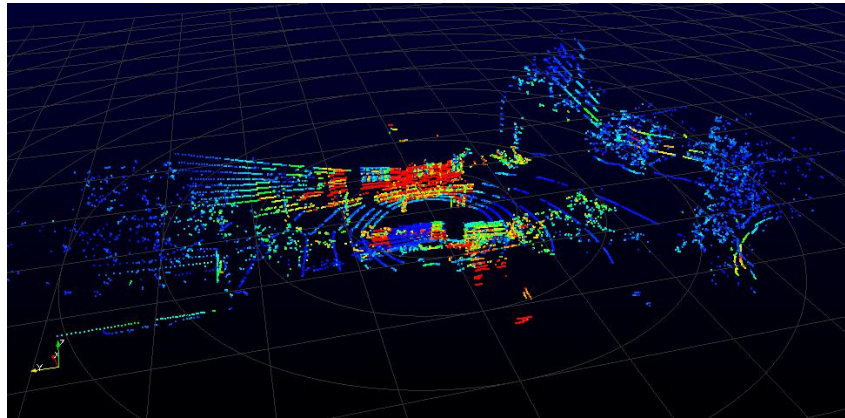

Fig C-3 RSView Sensor Stream Display
5. RSView begins displaying the sensor data stream (Fig C-3). The stream can be paused by pressing the **Play**